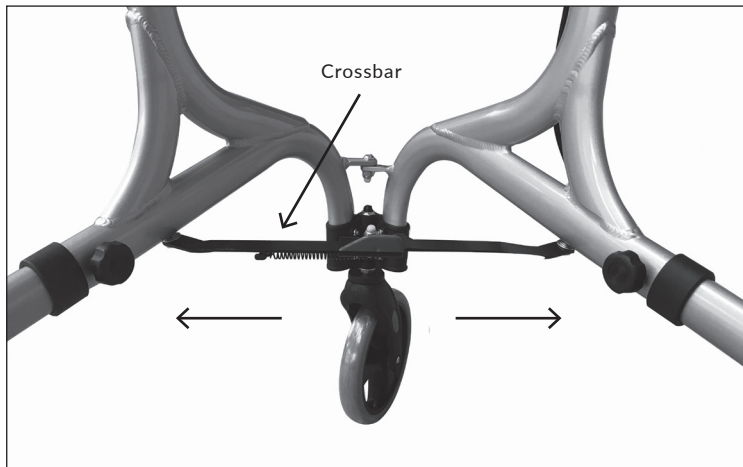

Figure 3:
1. Refer to Figure 2 and Figure 3. Gently pull the main frame apart until the spring locks and the cross-bar opens.